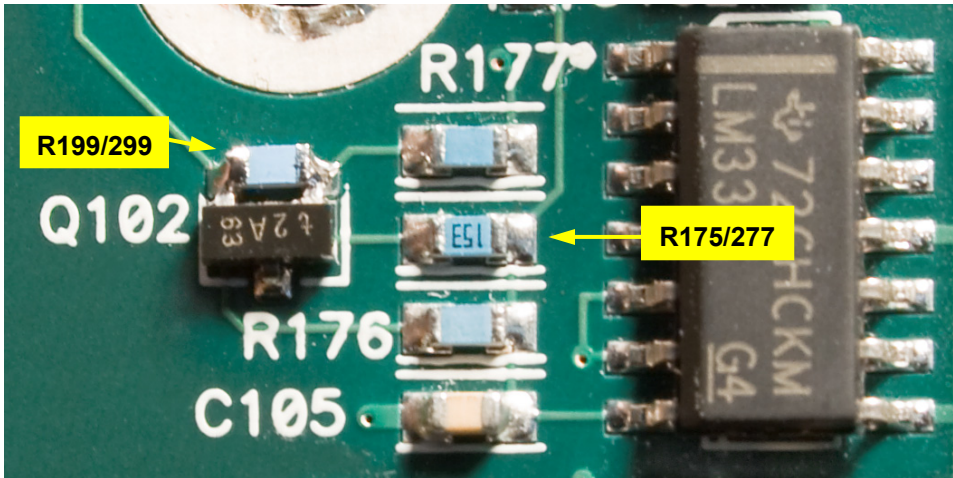

Fig 1 BMEG module modifications.
2. In the front left corner of the BMEG module, locate R175 and change it from 19.3k to 14.3k (AP p/n 1176.1432.1). Do the same for channel 2 (R277). See Figure 1.
3. Beside the resistor that was just changed, locate Q102. Solder new resistor R199 3.24k 1% (AP p/n 1176.3241.1) across the emitter and base as shown in Figure 1. Do the same for channel 2, soldering a new resistor R299 across Q202.